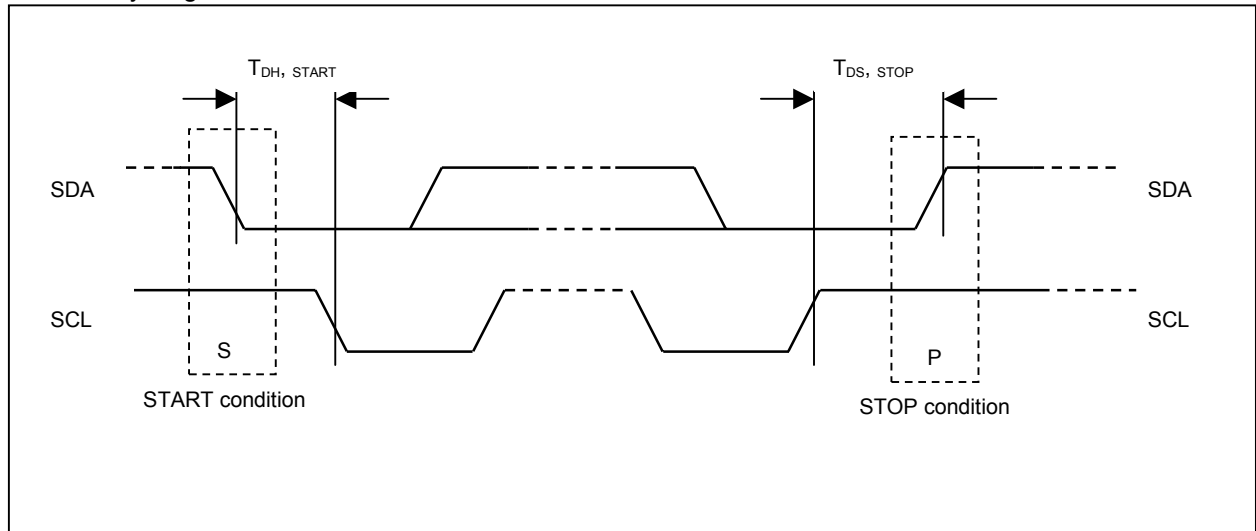

Figure 9 - Definition of the start and stop condition
- 1) The master device initiates the data communication by a start condition. The definition of the start condition is shown in Figure 9. The start condition is established by pulling the SDA from high to low while the SCL stays high.
- 7) The write mode will be finished when a stop condition is applied. The stop condition is also defined in Figure 9. The stop condition is established by pulling the "SDA in" from low to high while the "SCL" stays high.